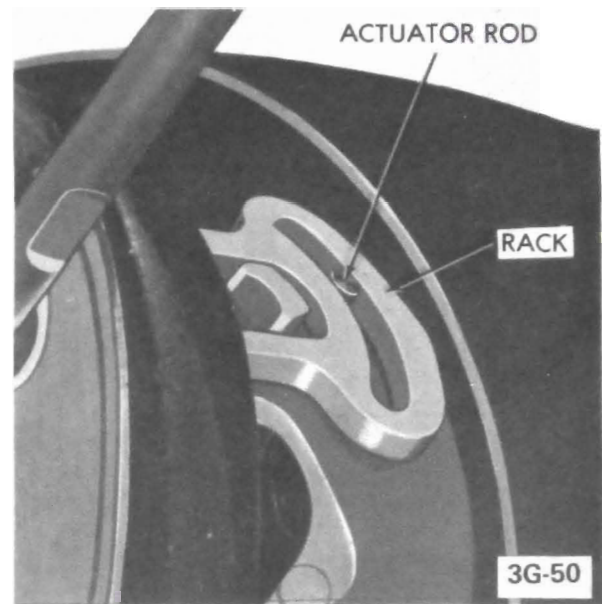

Figure 3G-70 - Installing Bearing Housing
17. Assemble bearing housing over steering shaft and engage rack over end of actuator rod. See Figure 3G-70.
20. Place housing in full "Up" position and install guide, tilt spring and tilt spring retainer, using screwdriver in retainer slot. Turn retainer clockwise to engage. Make sure there is grease between the guide and peg on support. See Figure 3G-59.
22. Install tilt lever opening shield in housing. See Figure 3G-63.